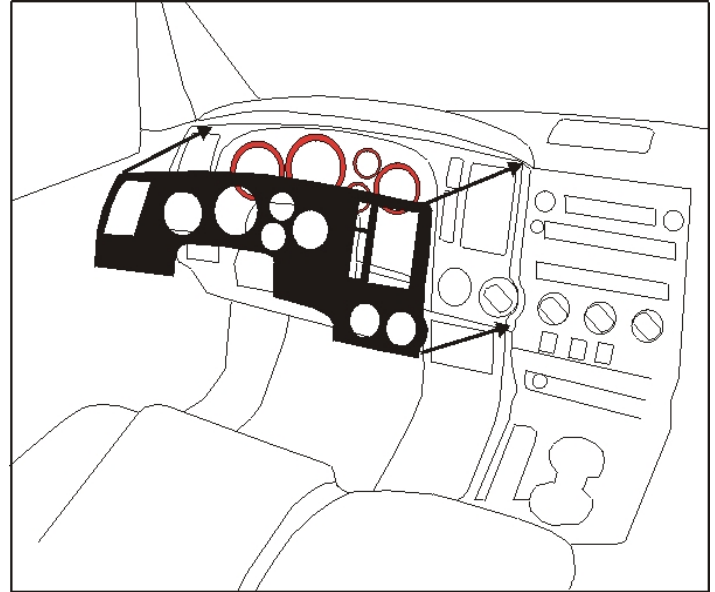

Fig. 3-1
- ⚠ (1) Align part uniformly to edge of factory component. Insert the console trim through the speedometer holes, highlighted in red. Continue from the center of the IP, in an outward direction, adhering the rest of the IP applique. Use care when aligning the buttons and outer edge for proper alignment. (Fig. 3-1)
- (2) Gently touch part into position.